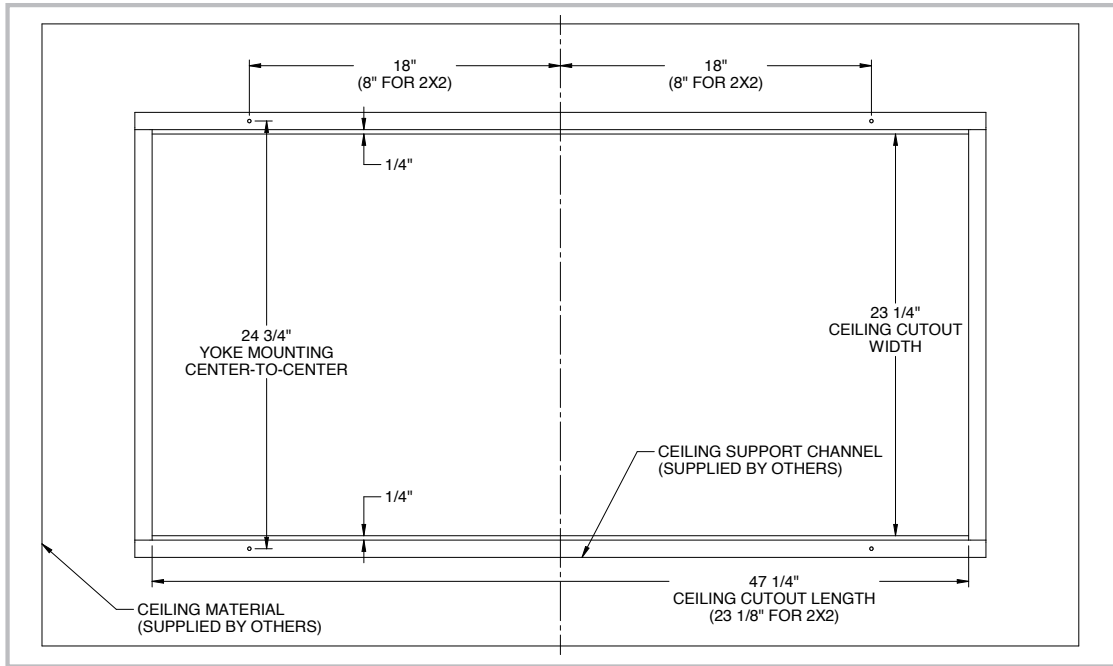

Figure 1: Recommended Ceiling Cutout and Support Channel Preparation
2. Install rigid framing (i.e. C-channel) around the cut opening. Align the vertical edge of the end channels flush with the cut opening. Position the longer side channels 1/4" from the cut opening as shown in *Figure 1*. Secure the ceiling material to the bottom surface of the frame. Support the rigid frame from the building structure.
3. Prepare mounting holes in the framing channel according to *Figure 1*.